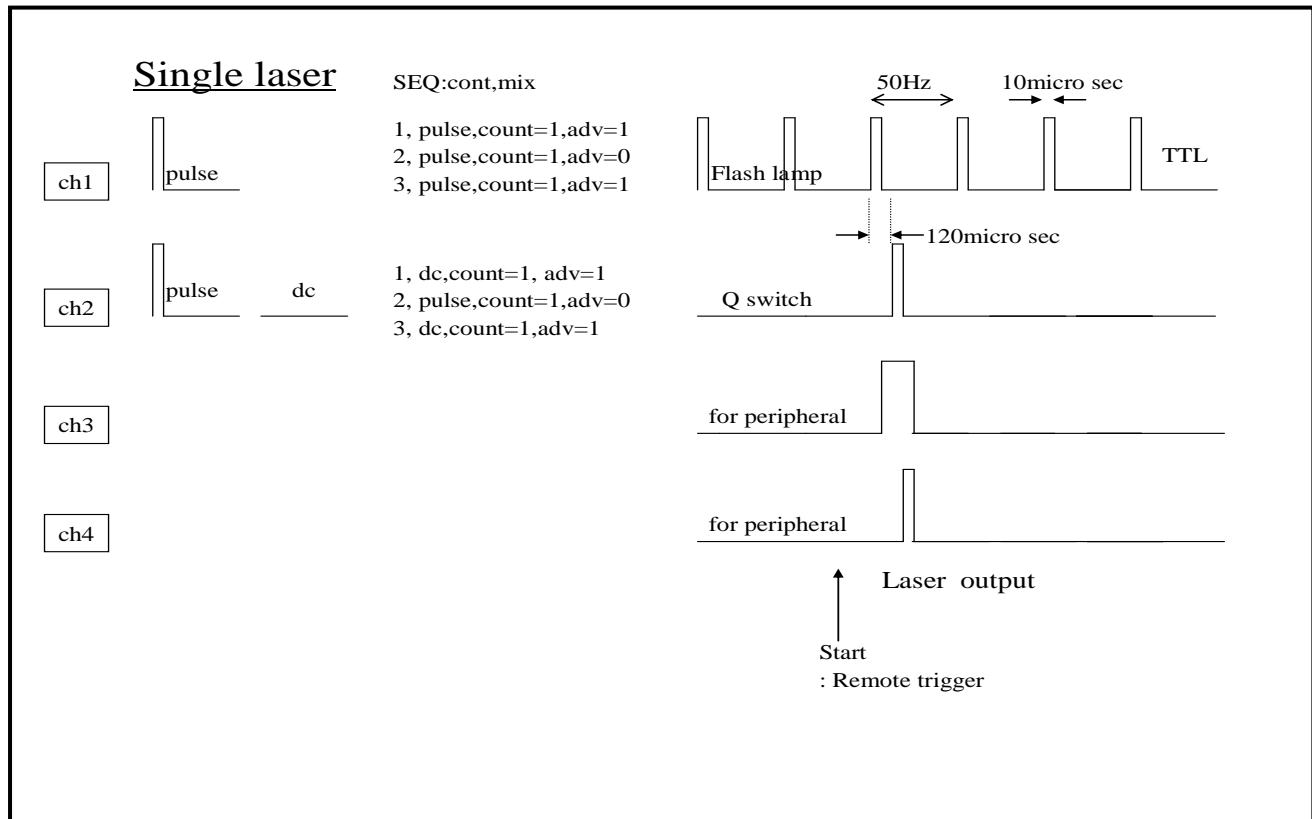

Figure 1: Wonder Wave Support for Laser Pulse Applications
**Tabor Electronics' Wonder Wave family of Arbitrary Waveform Generators (AWGs)** offers an outstanding solution for laser pulse applications. Wonder Wave offers 4 synchronized output channels, supporting sampling rates of up to 200 MS/second. Its multi-channel solution allows you to synchronize the activity of the flashlamp, the Q-switch, and peripheral devices, as shown in the diagram in Figure 1 below.